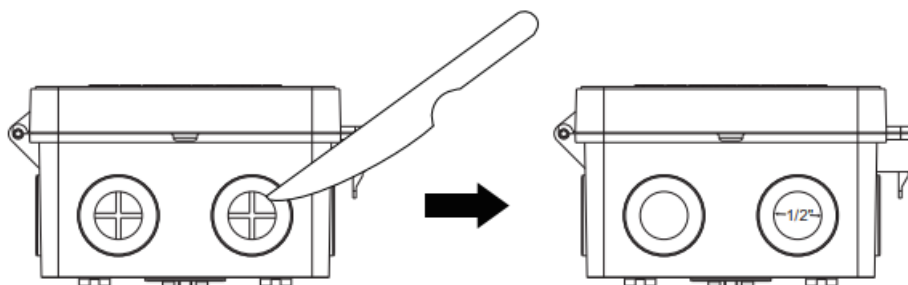

FIG.2 1/2" knockout
- **For 1/2" Knockouts:** If you use the 1/2" knockout, carefully cut off the inner ring of the rubber plug with a knife (FIG.2).